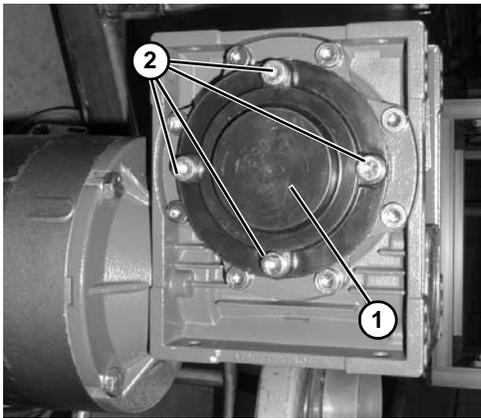

Figure 17
4. Install cover (Figure 17, item 1) with four (4) screws (Figure 17, item 2).